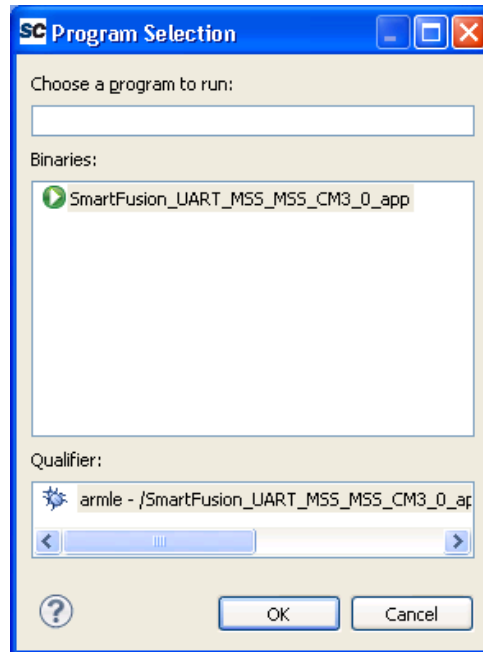

Figure 26 · Select Program
3. If the **C/C++ Application** project is not displayed (as seen under **C/C++ Application**), click **Search Project** to select the program to run, as shown in Figure 26 .